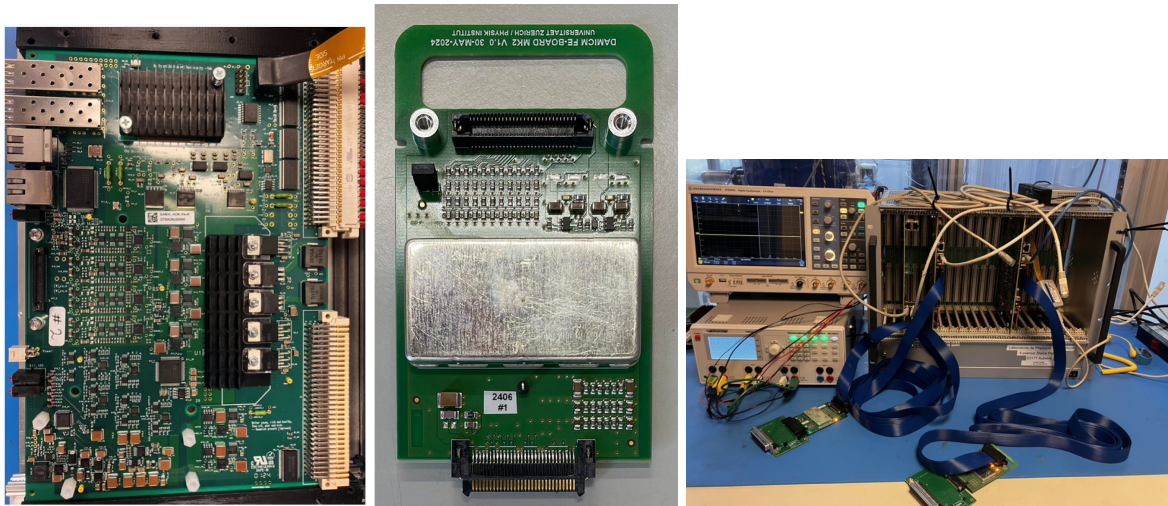

Figure 1: Left: ACM board. Middle: FE board. Right: complete system with two ACM, FE board, one synchronisation board and adapter board
- an ACM board (Fig. 1 left) [https://edg.uchicago.edu/~bogdan/DAMIC\\_ACM/index.html](https://edg.uchicago.edu/~bogdan/DAMIC_ACM/index.html)
- a front end board (FE board) 1 (Fig. 1 middle) <https://gev.uchicago.edu/cgi-bin/DocDB/ShowDocument?docid=1117>